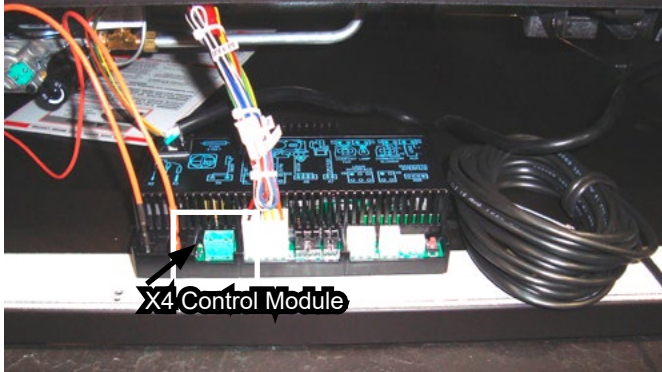

Figure 3 Control module with wires
2. Plug the Control Module Power cord to the PPO box. See Figure 3.